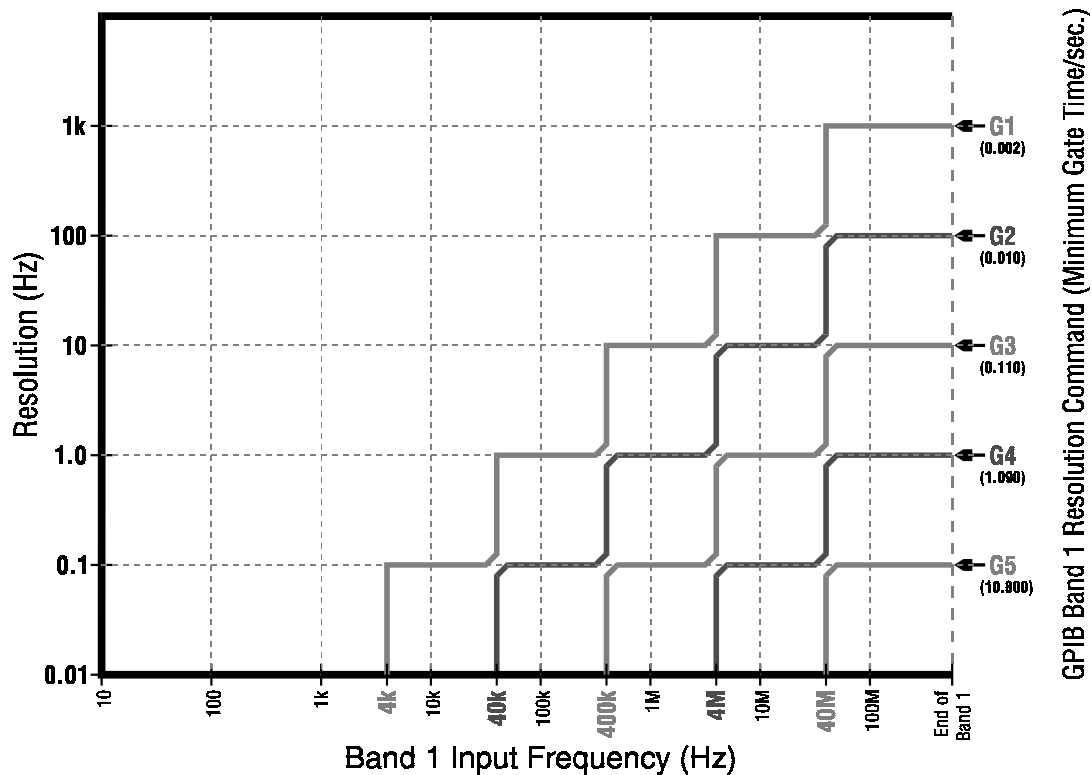

Figure 3-5. Band 1 Resolution Chart.
3-13.3. Band 1 Resolution. Resolution is defined as the value represented by the least significant digit (LSD) displayed. The Frequency resolution in Band 1 is a function of both the **resolution selected and the actual input frequency**. This is true for both manually selected Band 1 resolution (using the resolution up and down arrows on the front panel—one to five zeros displayed) and for Band 1 resolution set over the GPIB buss (via 488 commands, G1–G5, one to five zeros displayed). The accompanying chart, Figure 3-5, cross-referencing Maximum Resolution (Hz); Band 1 Input Frequency; and GPIB Band 1 Resolution Command (Minimum Gate Time); is an attempt to illustrate the resolution (in Hertz) of Band 1 frequencies for various gate lengths selected either manually or over the GPIB buss. The gate length number (e.g. G3) corresponds to the number of zeros displayed when there is no input frequency. For example, without an input signal in Band 1, push the resolution arrows till four (4) zeros are displayed—this is the G4 gate setting (1.090 sec. minimum gate time). If a 10 MHz signal is then connected to the Band 1 input, the counter will display 10000000.0 Hz (10 MHz with a 0.1 Hz resolution at a minimum gate time of 1.090 sec.). To compute the actual resolution for a selected gate time and measured frequency use the formula $(1/(1.2^8 \times \text{GATE TIME})) \times \text{FREQUENCY} = \text{RESOLUTION}$ (or 0.01 Hz, whichever is larger); where GATE TIME is in seconds and RESOLUTION is in Hertz. Resolution of 0.001 Hz to 1 Hz is given automatically for frequencies less than 10 kHz.
3-13.4. Band 2 Resolution and Blanking. Resolution of 1 Hz to 1 MHz, in decade steps, is available in Band 2. Resolution once selected is stored in memory until changed or power is removed. If 0.01 Hz or 0.1 Hz resolution is selected in Band 1 and you enter Band 2, the resolution will default to 1 Hz in Band 2...but when you return to Band 1, the previously selected resolution will be active. **Note:** Selecting 0.01 Hz or 0.1 Hz resolution in Band 1 may require up to a 10 second gate time to measure the signal (see figure 3-5). During this gating time-out, the display will read "0" until measurement is achieved